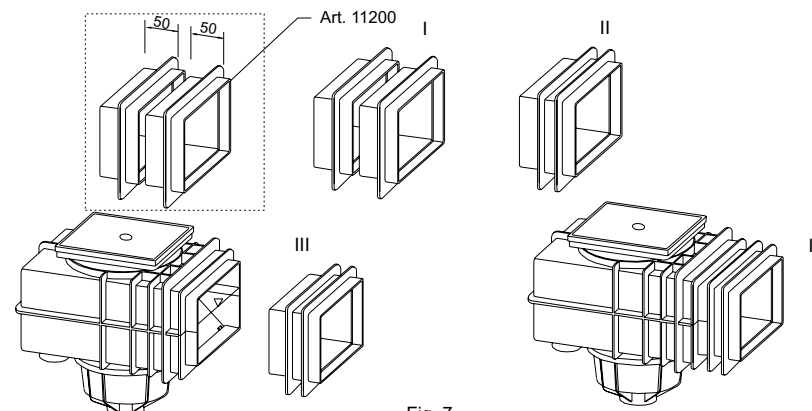

Fig. 7
2.1 Skimmer neck extension ABS white (Item 11200) (Fig. 7)